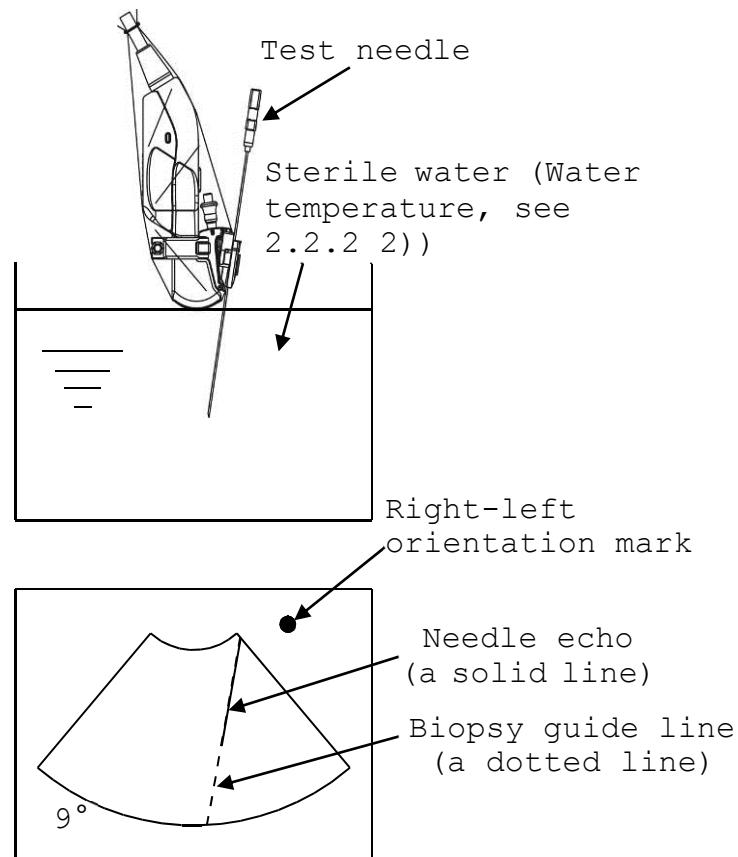

Fig. 2 Echo image of the test needle
3) Put the probe in sterile water and confirm that the needle echo at each angle overlaps with the correspondent biopsy guideline (See Fig. 2).